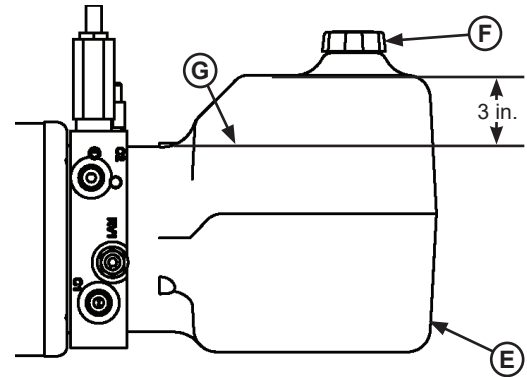

Figure 25
- Check reservoir fluid level (G, see Figure 25):
3. Remove breather cap (F).
4. Measure fluid level. The fluid level should be approximately 3 in. (76.5 mm) from top of reservoir (E) with platform at the below-dock position.